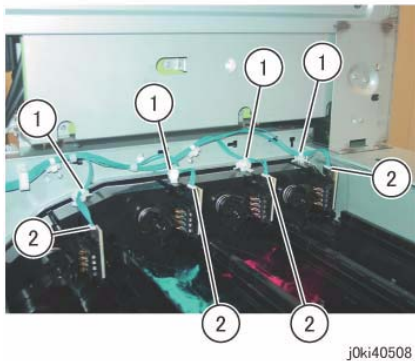

Figure 3 Disconnect the connectors
12. Disconnect the connectors (x4). (Figure 3)